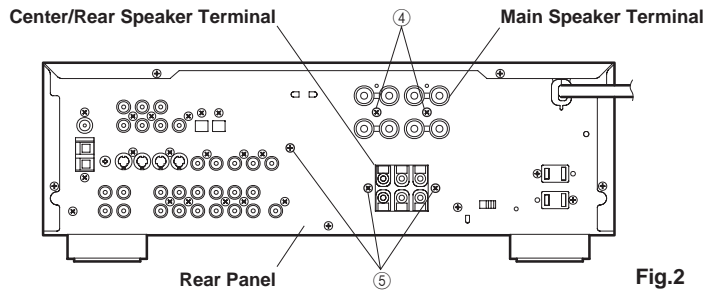
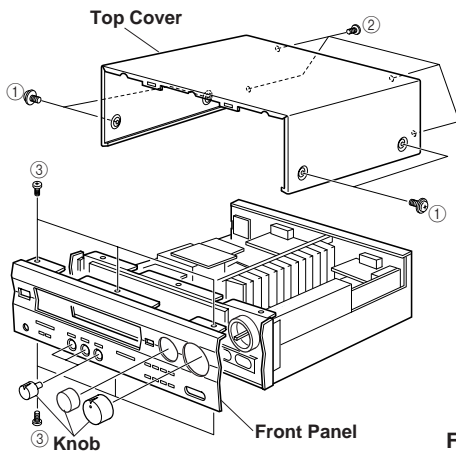

Fig.2
Fig.1
Remove 4 screws (①) and 4 screws (②) in Fig. 1.
- Remove 6 screws (③) in Fig. 1.
3. Before Checking and Parts Replacement of Main Amplifier [P.C.B. MAIN (1)]
- Remove 2 screws (④) fixing the Main Speaker terminal in Fig. 2.
- Remove 3 screws (⑤) fixing the Center/Rear Speaker terminal and the Heat Sink in Fig. 2.